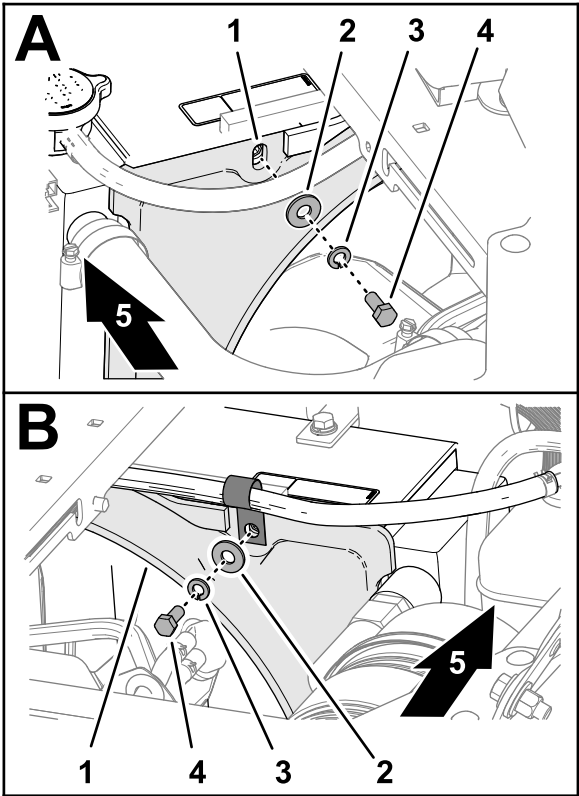

Figure 2
1. Remove the 2 capscrews (5/16 x 3/4 inch), 2 lock washers (5/16), and 2 washers (5/16) that secure the upper fan shroud (Figure 2).